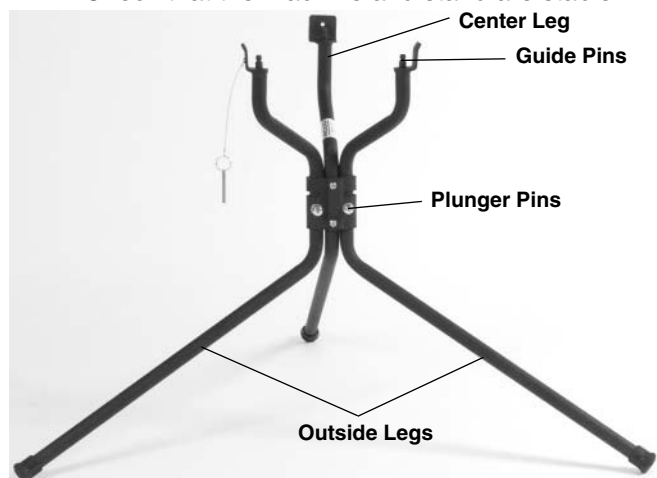

Figure 3 – Model 120 Stand in OPEN Position.
- Pivot the two outside legs of the 120 Stand outward until the plunger pins lock into place, (See Figure 3) and place in work area.
- Grasp the front and rear carrying handles of the threading machine and place it on the 120 Stand, be sure to place the base of the threading machine over the guide pins on the top of the 120 stand as shown in Figure 3. The center leg of the stand lines up under the rear centering device of the machine.